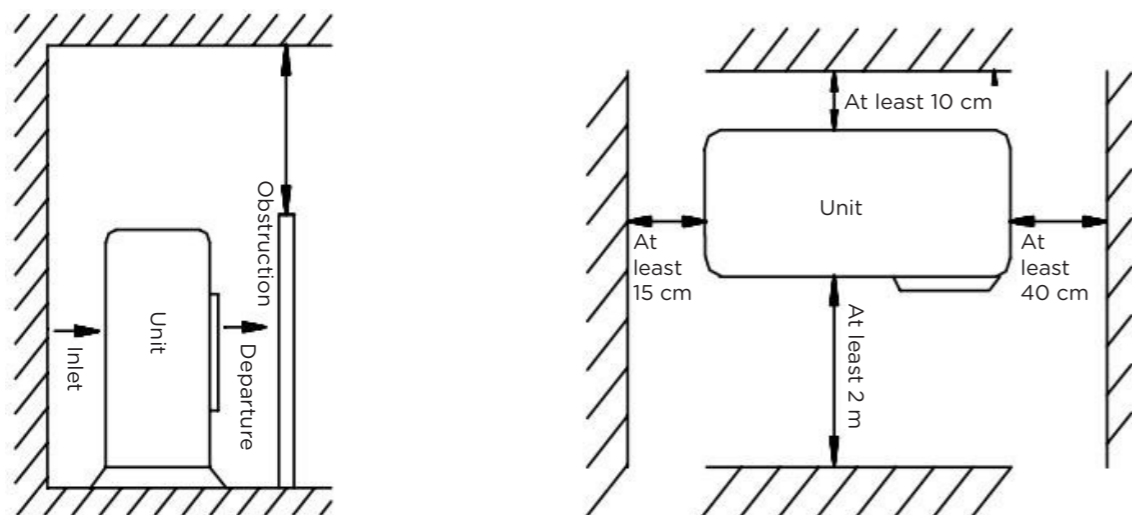

Fig.2
- The installation distance must be as indicated in Figure 2.